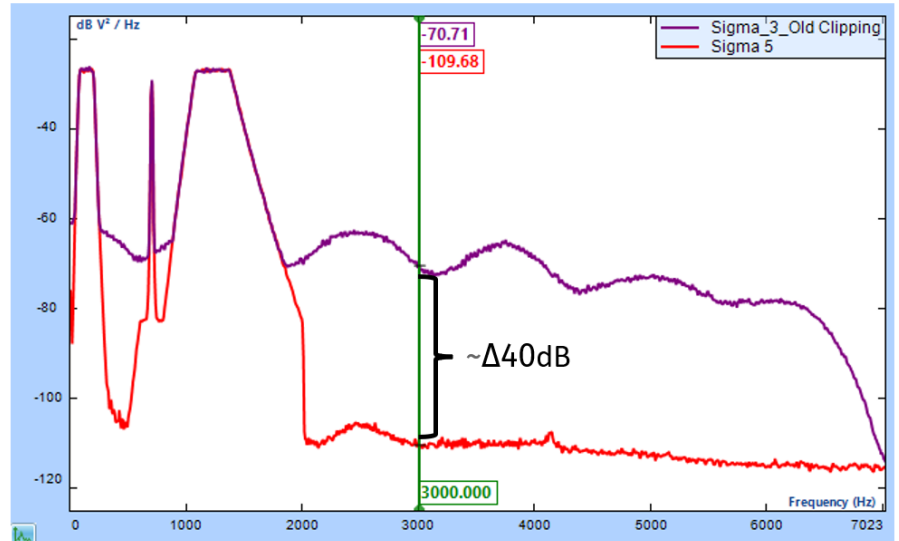

Figure 4. Drive signals auto power spectra for entire frequency range
2. Addition of high frequency component to the signal: The consequences of limiting or hard clipping the peak values of a signal are the addition of high frequency components to the signal as shown in **Figure 4**. This is a huge drawback considering the resonance frequencies of the DUT could fall in these high frequency contents and potentially damage the DUT.